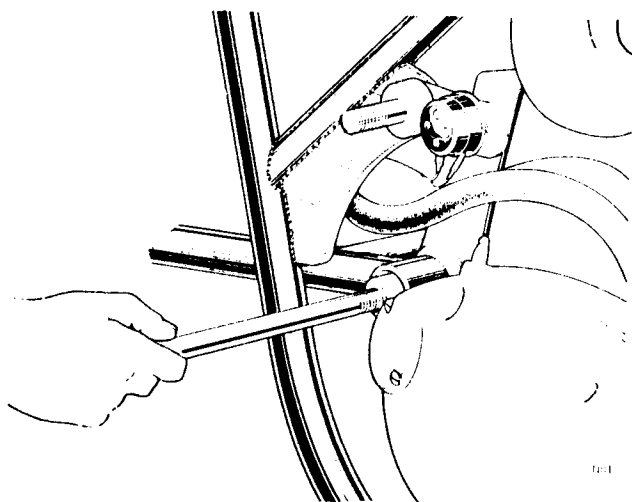

Fig. F6 Removing (or aligning) swinging arm spindle
- 21 Take out the swinging arm pivot spindle. It will be noted that the pivot spindle is threaded internally to aid removal. Screw a bolt with locking nut into thread (the $\frac{1}{2}$ " UNF main front mounting bolt will be ideal) tighten the nut and twist and pull the spindle out. The left hand welch-washer felt disc will remain undisturbed. See Fig. F6.